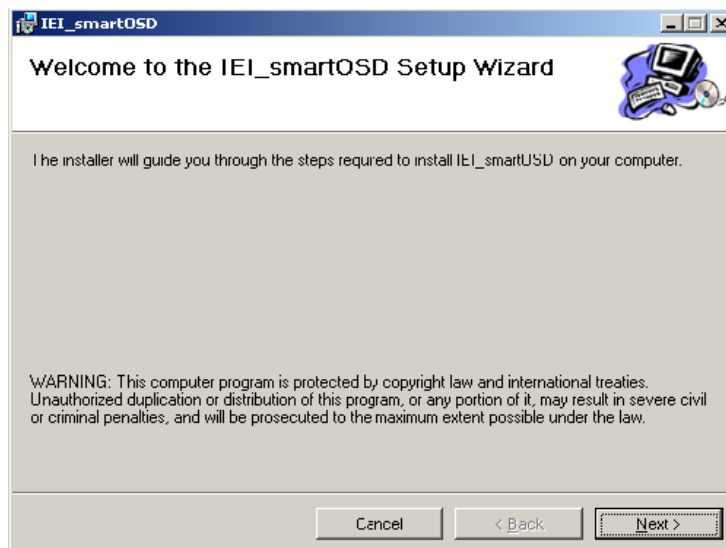

Figure C-2: smartOSD Welcome Screen
Step 3: The welcome screen shown in **Figure C-2** appears.